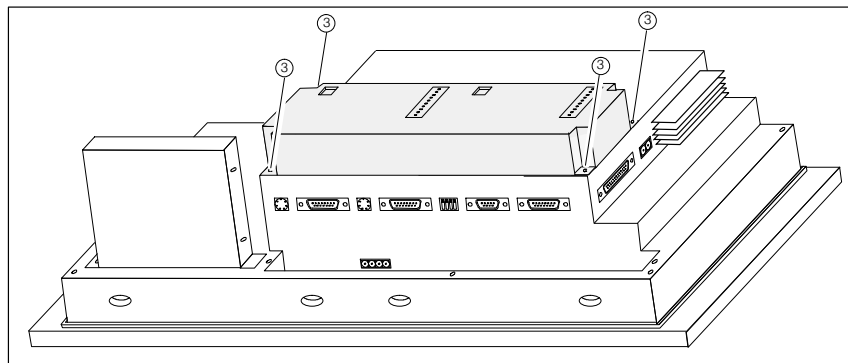

Figure 5-6 Fixing direct key module to OP
4. Fix direct key module to the OP using the four screws ③ supplied (see Figure 5-6).